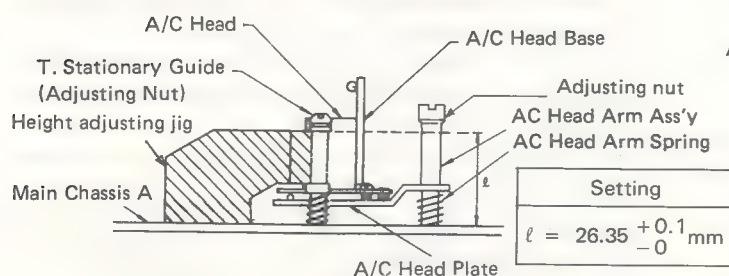

Figure 22.
1. Set the guide height adjustment jig on the main chassis A, as shown in Figure 22.